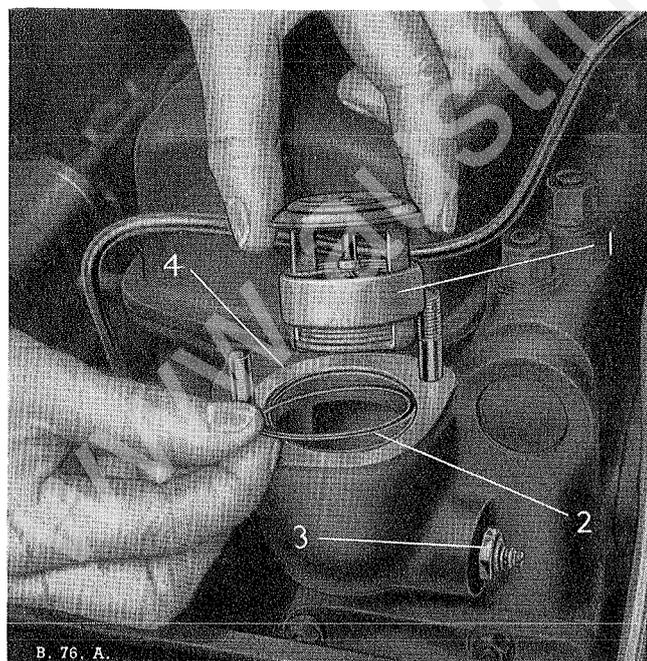

Fig. C.3. Illustrating the removal of the thermostat from its housing.
- (1) Drain the cooling system (see Section C.7).
- (2) Disconnect the water outlet hose from the outlet elbow.
- (3) Remove the two nuts securing the outlet elbow to the cylinder head and lift off the outlet elbow.
- (4) Remove the outlet elbow to cylinder head joint.
- (5) Lift out the thermostat, fig. C.3.
- (6) Test the thermostat opening temperature by immersing it in water at a temperature between 158° and 167° F. (70° and 75° C.). If the thermostat valve does not start to open, or the valve sticks in the fully open position, the thermostat should be renewed. No attempt should be made to repair the thermostat.
- (7) Clean the joint faces at the outlet elbow and at the housing in the cylinder head.